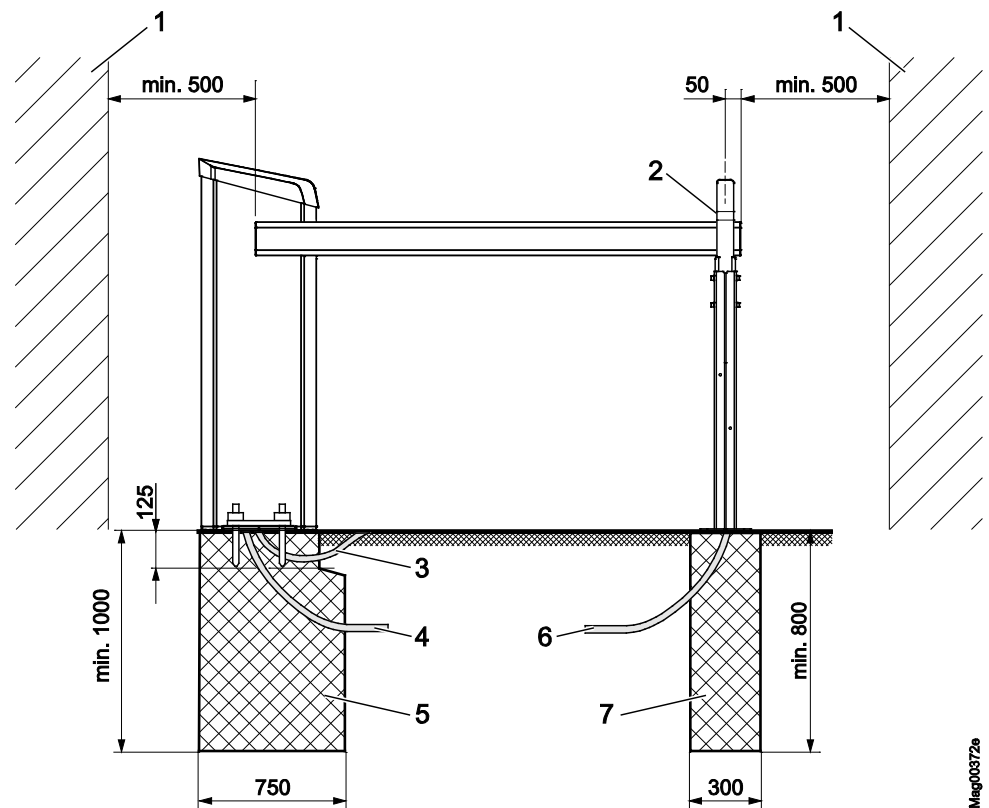
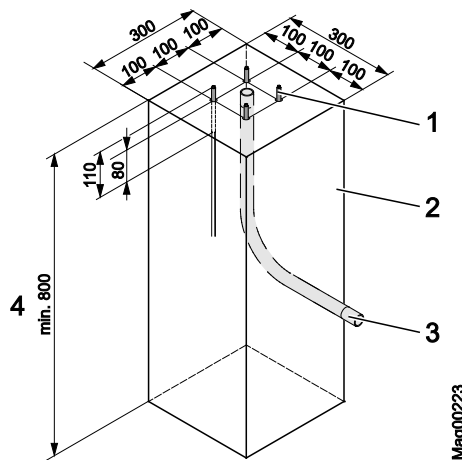

Fig. 11: Assembly boom system (dimensions in mm)
Fig. 15: Foundation plan for nesting post and light barrier post (dimensions in mm)
<p>Danger of crushing and shearing if the safety distance between the barrier boom and other objects is too low! A closing or opening barrier boom can cause severe injuries from crushing if the safety distance to other objects is too low!</p> <ul style="list-style-type: none"> – Keep a safety distance of at least 500 mm between the barrier boom and other objects, such as walls, masonry or houses. → See page 24, chapter 2.7. – Assemble and install barrier system according to Fig. 11.
→ See page 47, Fig. 11.
→ See page 47, Fig. 11 and page 49, Fig. 12.
1. Dig foundation hole pursuant to Fig. 11 and Fig. 12.
→ See page 47, Fig. 11 and page 52, Fig. 15.
1. Dig foundation hole pursuant to Fig. 11 and Fig. 15.
2. Place empty conduit pursuant to Fig. 15 in the foundation hole.
4. Fill concrete foundation pursuant to Fig. 15.